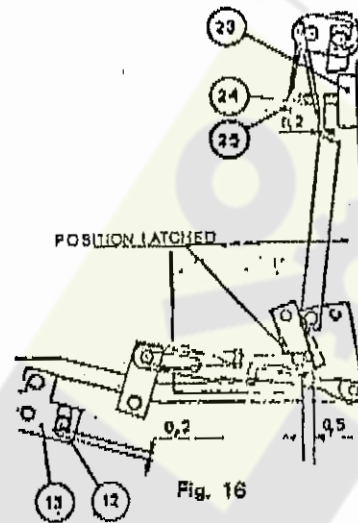

Fig. 16
b) Inspection. With the breaker in the open position, press the trip button (23) Fig. 16 and check travel of release bar. Distance between maximum position of reset and latch should be 0.5 mm (0.020 inch). Check play between lever (24) and adjustment screw (24) for a minimum of 0.2 mm (0.008 inch). Press the pushbutton fully to check for a minimum clearance of 0.2 mm (0.008 inch) between lug (12) of the latch (13) and the bottom of the slot.